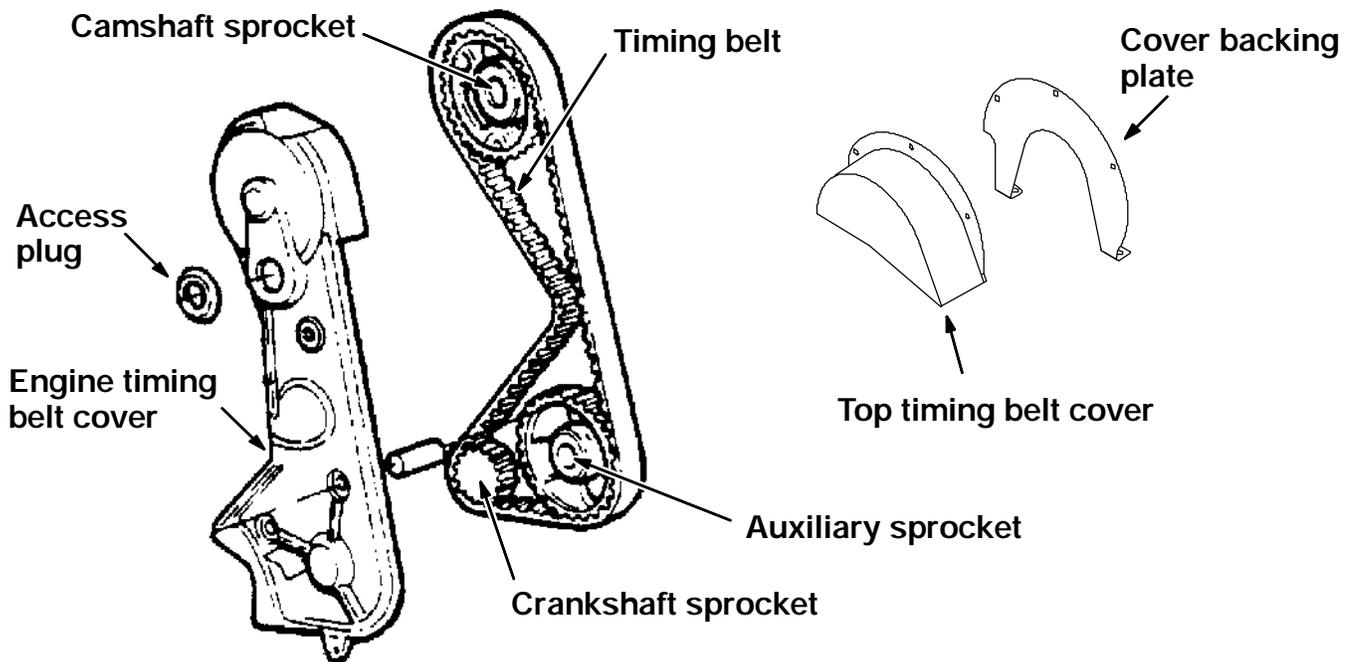

FIG. 2 - Timing Belt Covers
NOTE: If the engine is equipped with a smaller top timing belt cover; it needs to be removed before the larger timing belt cover can be removed. (Refer to Fig. 2 and 4)
5. Remove the three M6 hex screws and nyloc nuts holding the smaller top cover to the engine. Remove and retain the smaller cover. (Refer to Fig. 2 and 4)
8. Remove the five hex screws holding the large timing belt cover to the engine. Remove and retain the large cover. (Refer to Fig. 2)
10. Remove the old timing belt from the engine. (Refer to Fig. 2 and 3)
2. Remove the distributor cap and set the distributor rotor to number 1 firing position by turning the auxiliary shaft sprocket. Reinstall the distributor cap. (Refer to Fig. 2 and 4)
9. Reinstall the timing belt cover and the five hex screws. (Refer to Fig. 2)
10. Reinstall the small, top cover on the timing belt cover. Hand tighten the three M6 hex screws and nyloc nuts. (Refer to Fig. 2 and 4)